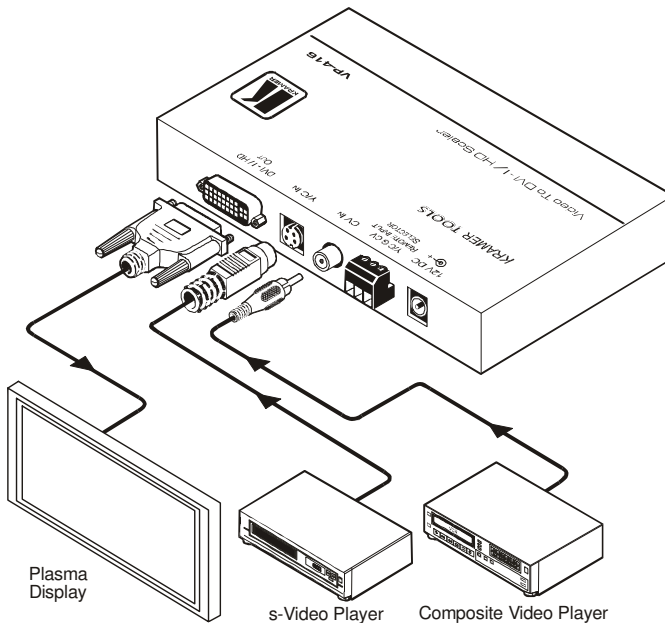

Figure 8: Connecting the VP-416
To connect the **VP-416**, as the example in Figure 8 illustrates, do the following¹:
3. Connect the 12V DC power adapter to the power socket and connect the adapter to the mains electricity (not shown in Figure 8).